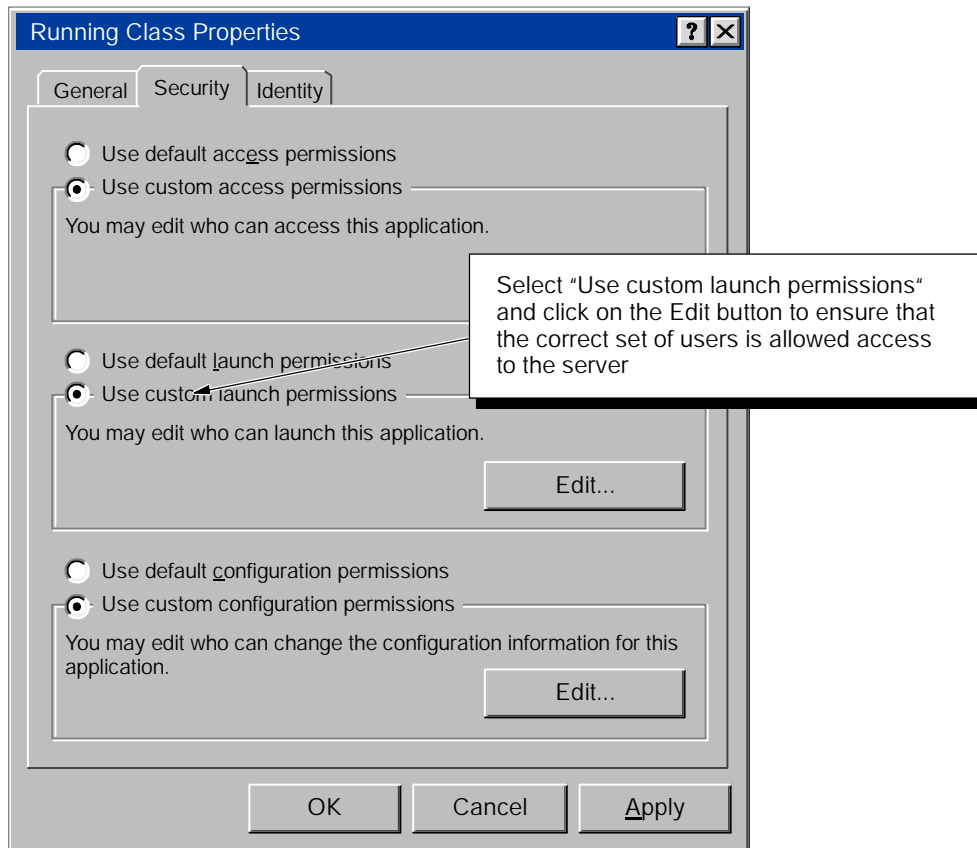

Figure D-9 Configuring the DCOM Access Permissions for the Server
2. Select "Use custom access permissions" and click on the Edit button. See Figure D-9.